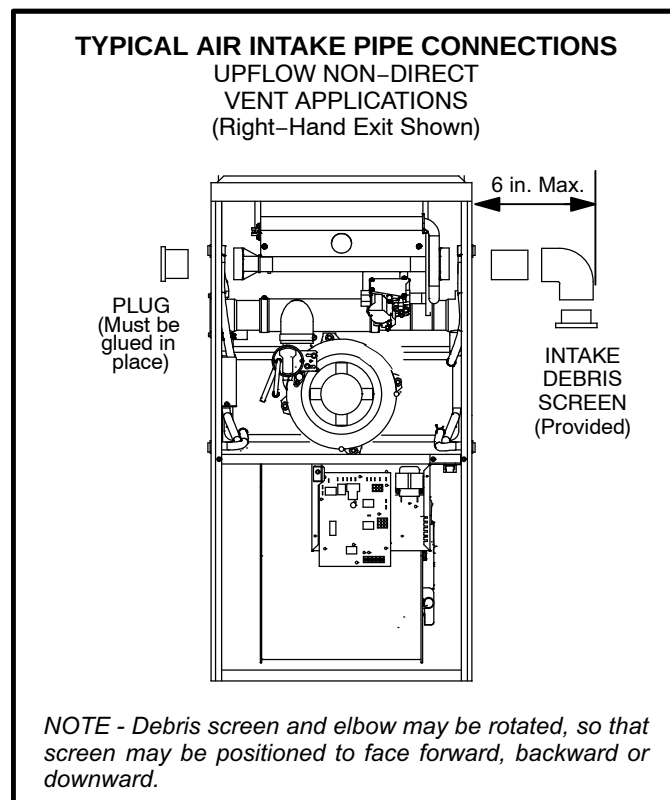

FIGURE 22
- 1 - Use field-provided materials and the factory-provided air intake screen to route the intake piping as shown in figure 22. Maintain a minimum clearance of 3" (76mm) around the air intake opening. The air intake opening (with the protective screen) should always be directed either downward or straight out. Use 2" pipe and fittings only and make sure that the air intake does not extend more than 6" beyond the G43UF cabinet.